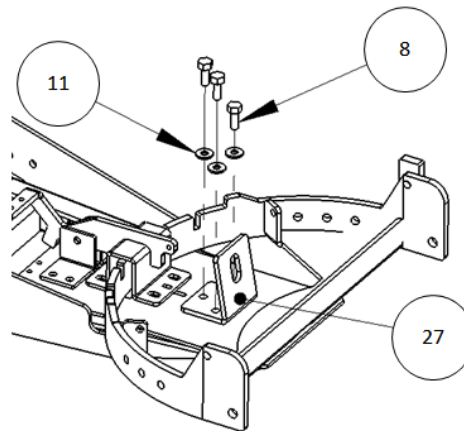

Figure 7
- 5) Install the Winch Attachment Bracket (#27) using the $\frac{3}{8}$ " Bolts (#8) and washers (#11). **(Figure 7)**